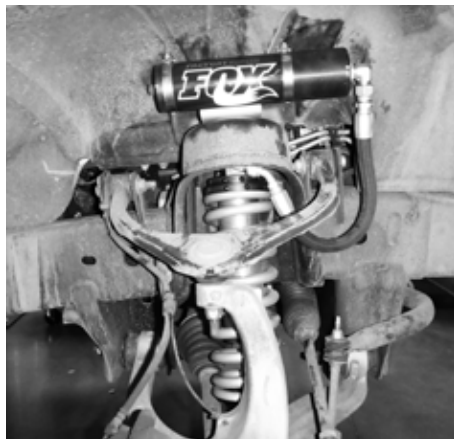

Fig. 2: Passenger side
10. Install the new coil-over assembly. With remote reservoir models make sure that the hoses are facing outward and towards the front of the vehicle. (Fig.2) Connect the top shock hat to the vehicle using the bolts and washers provided or with Performance Series models connect the top shock hat to the vehicle using the nuts and